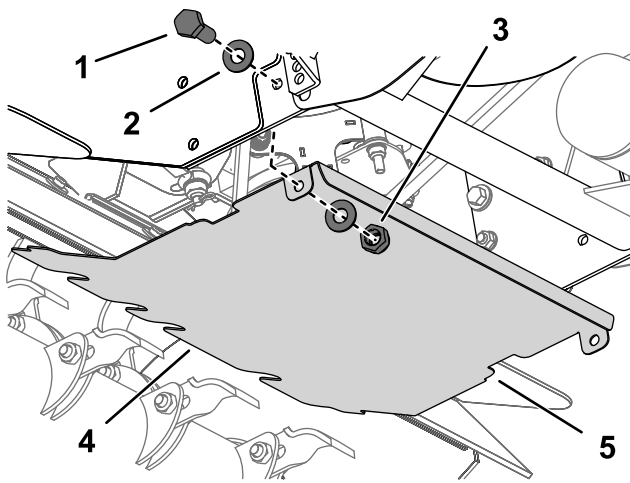

Figure 7
1. Install the 3 protection strip sections to the front edge of the guard to prevent vibration (Figure 7).
- A. Remove the center nut, bolt and washers from the center fixing on the deck (Figure 7).
- B. Install the guard to the traction unit using 2 bolts (M8 x 25 mm), 4 washers (M8-17), and 2 locknuts (M8) in the lower hole on the engine frame (Figure 7).
- C. Secure the front of the guard to the deck using the center bolt, washer, and nut you removed previously (Figure 7).